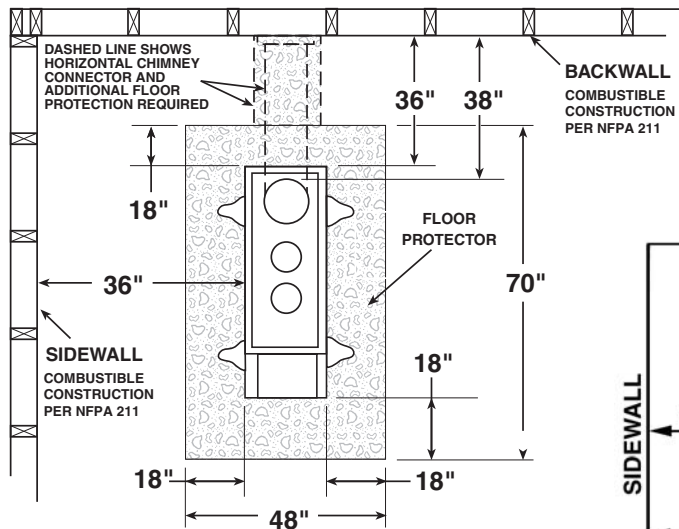

Figure 1 – Top View Minimum Clearance Dimensions from Combustible Surfaces
3. After observing the clearances to combustible materials (figure 1–3), locate your floor protector accordingly and carefully place the stove in your selected location. Install connector pipe, elbows, and thimble as required, utilizing either a
4. Use round 6" dia., minimum 24 MSG black or 26 MSG blue steel stove pipe to connect the stove to the chimney. **DO NOT USE GALVANIZED DUCT PIPE AS A CONNECTOR.** Secure connector pipe to the flue collar with three (3) sheet metal screws. Secure pipe/elbow sections with three sheet metal screws at each joint to make the piping rigid. Screws may be no more than a maximum of 3"/76mm apart. **DO NOT** connect this stove to any air distribution or duct system.
5. Recheck clearances from the stove, connector stove pipe, and corner clearances using the illustrations (figure 1–3) and your local building codes or fire protection ordinances.